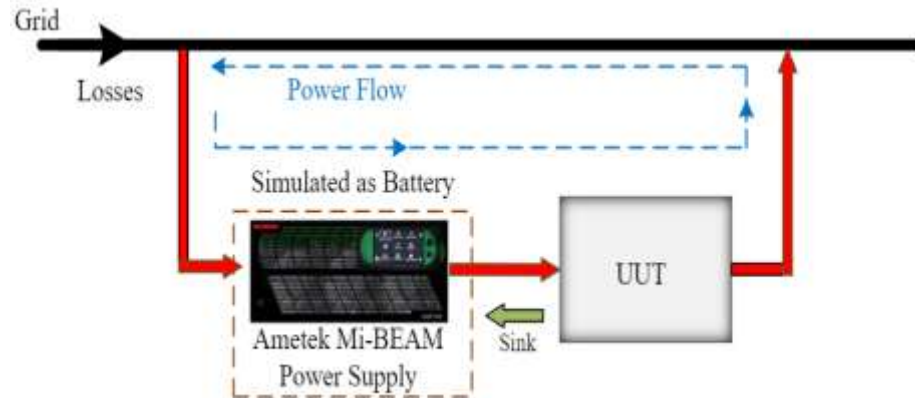

**Figure 6-7. Battery simulation-charge mode**
- Battery Simulation-Charge Mode:** The Mi-BEAM Series power supply regulates voltage to simulate battery charge characteristics, with the current direction being negative. Based on the current injected by the UUT (battery charger), the instantaneous SoC is calculated. The output voltage is varied as per the battery characteristics defined by the user. The Mi-BEAM Series power supply functioning in battery simulation charge mode is shown in Figure 6-7.